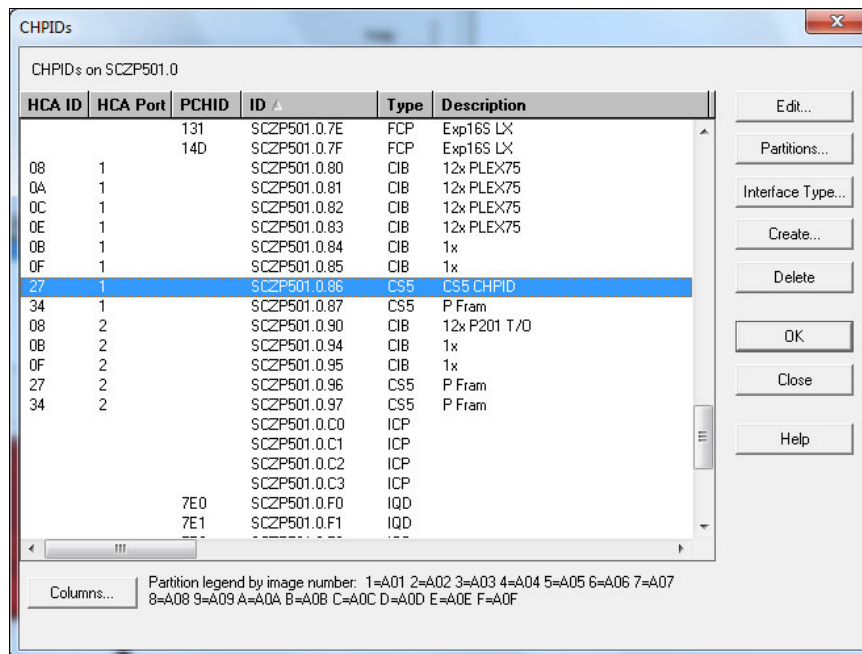

Figure 5-27 HCM - CHPIDs: first CS5 CHPID defined
8. Now observe the CS5 CHPID defined in the CHPID summary list (Figure 5-27).